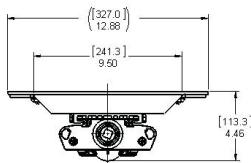

Figure 6. MP1054MTK Kit MagnaPro Mount Kit Installation
3. Mark and drill holes to install brackets to wall or ceiling with two (2) 1/4" bolts (not supplied). For Magnapro, bracket holes may be spaced as required, it is recommended to keep them at least 12" (305mm) apart (see Figure 6).